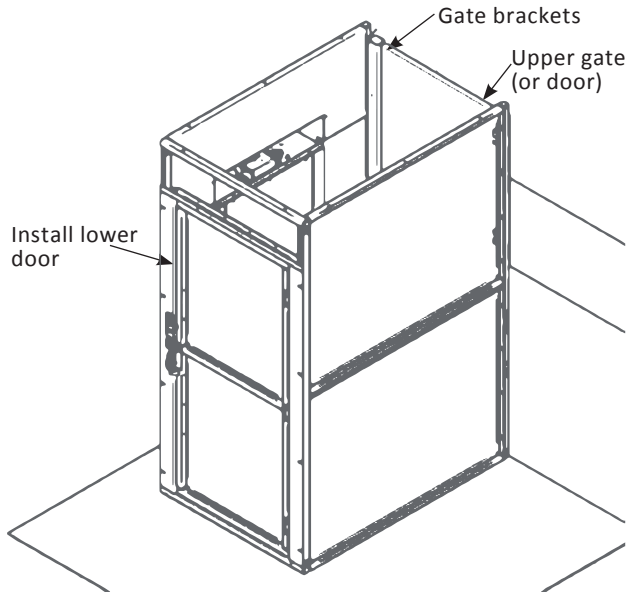

Figure 4-12
3. Your door may come assembled to the frame. The door assembly weighs more than 200 lb, so take care in lifting it into place and be careful not to scratch it. Put eight bolts into it and leave them loose before final placement. You'll need to adjust the position both vertically and horizontally to match the threshold of the ramp (or upper landing). **See Figures 4-12 and 4-13.**